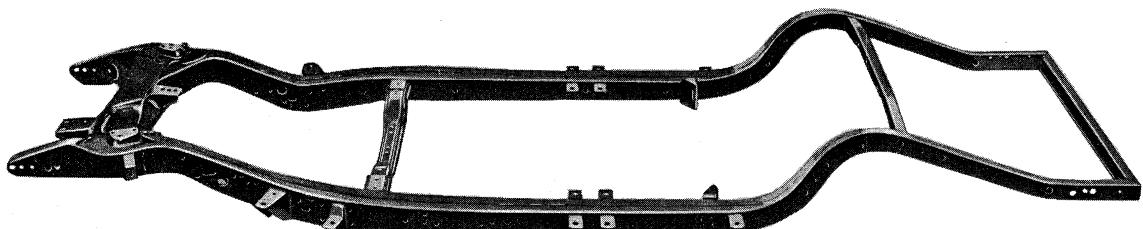

Figure 1
Refer to the chart on first page to determine basic frame to be used and operations necessary to alter it for adaptation to the desired vehicle. Then perform only the operations listed below as indicated in the chart. It is recommended that an electric welder be used for all cutting and welding - DO NOT USE ACETYLENE. Figure 1 shows the basic frame as it would be received from the Parts Division.
- Operation #1** Weld #3 body hold down bracket, Part Number 1730 660, to the frame 42.19 inches from #2 body hold down bracket on both right and left sides of the frame. Measure as indicated in Fig. 1. Weld all around both sides of the bracket.
- Operation #2** Weld #3 body hold down bracket, Part Number 1829 945, to the frame 42.19 inches from #2 body hold down bracket on both right and left sides of the frame. Measure as indicated in Fig. 1. Weld all around both sides of the bracket.
Fig. 1 Measure from the center line of the hole in the #2 Body Hold Down Bracket to the center line of the hole in #3 Body Hold Down Bracket and parallel to the center line of the frame.